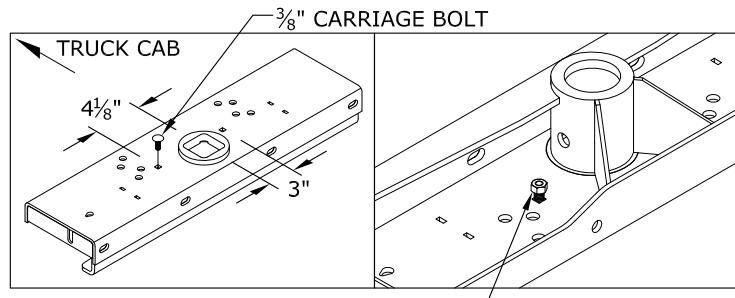

FIGURE B5: Center Section before installation.
- 2A. **Insert carriage bolt.** Install  $\frac{3}{8}'' \times 1''$  long carriage bolt into center section and attach with finish nut as shown in figure B5, Do not tighten nut.